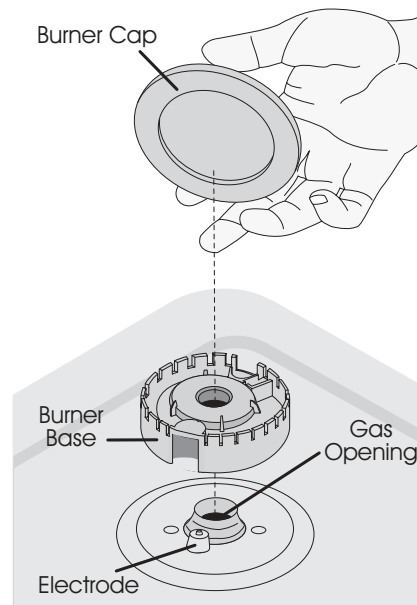

Figure 9
9.1 Install Burner Bases and Burner Caps This range is equipped with sealed burners as shown (see Figure 9).